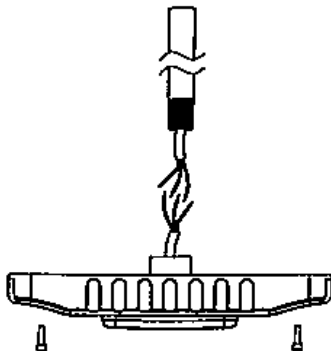

FIGURE 4
1. Connect the wiring to the local power supply in the 3/4" NPT Stem (Figure 4).